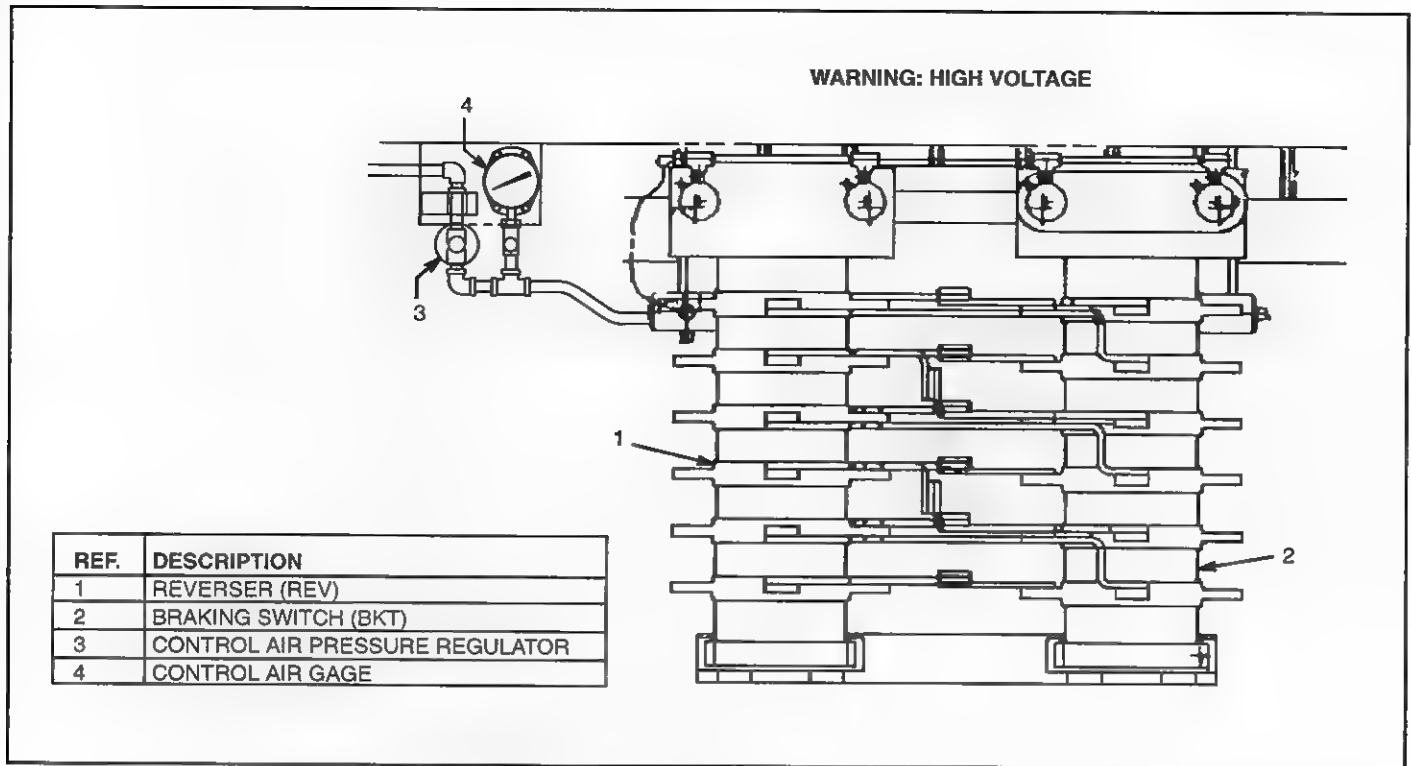

FIG. 22. CONTROL AREA 7 – LOCATED ON THE LEFT SIDE OF THE LOCOMOTIVE. E-40702.
Located on the left (B) side of the locomotive (Fig. 22).
1. Control Air Gage – Located in Control Area 7 (Fig. 22). Normal control air pressure is 80 psi (551 kPa).